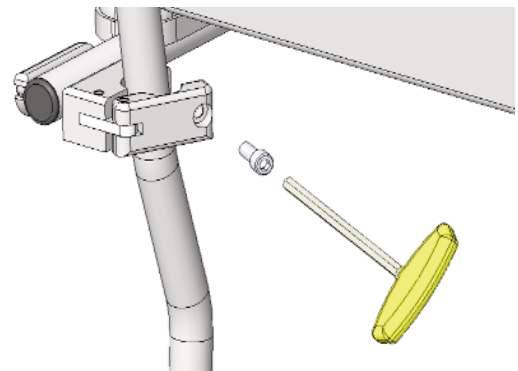

Figure 12
**B Cantilever Arms:** If desired, the cantilever arms can be removed from the backrest assembly for storage during traveling. This can be accomplished by unscrewing the socket head cap screws that attach the arms to the backrest posts using the 5/32" Allen wrench. Then remove the arm assemblies from the posts and re-insert the socket head cap screws into the arm assemblies, so they are not lost. To re-install the cantilever arms, simply follow the steps above in reverse (Refer to Figure 12).